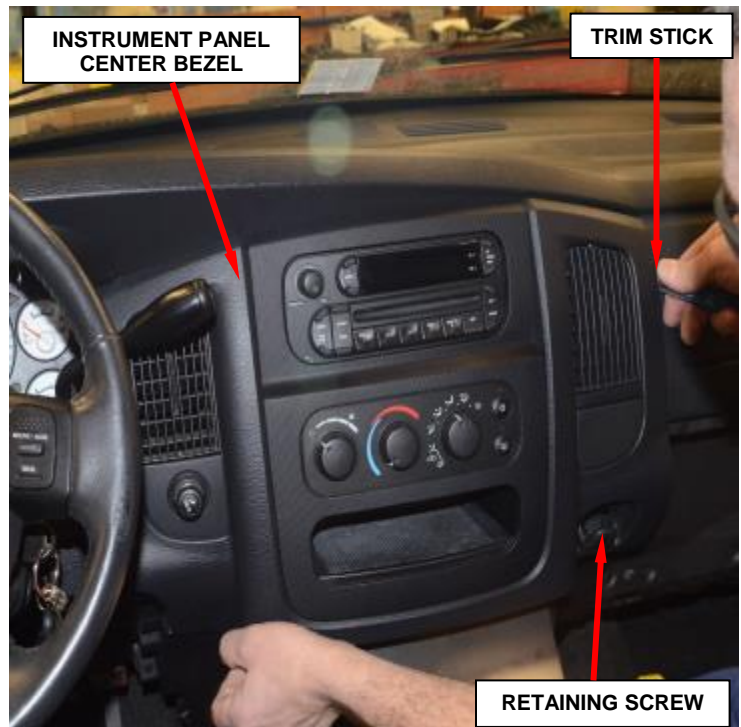

Figure 5 – Instrument Panel Center Bezel
- c. Remove and save the retaining screw that secures the instrument panel center bezel to the instrument panel (Figure 5).
- d. Using a trim stick, disengage the retainer clips that secure the instrument panel center bezel to the instrument panel (Figure 5).